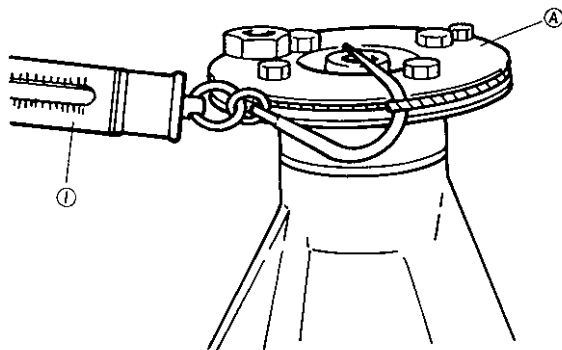

Fig. 16-23 ① Spring measure
The bevel pinion, as installed in the normal manner in the carrier, is required to offer a certain torque resistance when checked with the use of a prescribed torquing pulley (special tool ①) as shown in Fig. 16-23. This resistance is a "preload," which is due to the tightness of the two tapered roller bearings by which the pinion is held in the carrier. And this tightness is determined primarily by the thickness of the adjusting collar plus a shim.
Put on the torquing pulley (special tool) and give a pull, as shown in Fig. 16-23, and read the spring balance indication just when the pulley begins to turn. The reading is a starting torque, and is required to be within the 0.6 to 1.4 kg range (equivalent to the specified torque range of 3.0 to 7.0 kg-cm).
Adjust the preload on the side bearing during backlash adjustment: mount the preload check torquing pulley (A) (09922-75220) on the drive bevel pinion as shown in Fig. 16-23 and measure using spring measure (1). When the reading at the instant the side bevel gear starts moving is within the range as indicated below, the side bearing preload is acceptable. Referring to the graph, for example, when the drive bevel pinion bearing preload measured as indicated in Fig. 16-23 is 1.0 kg (2.21 lb), drive bevel pinion bearing preload (kg) + side bevel gear bearing preload (kg) should be 1.12 – 1.28 kg (2.47 – 2.82 lb).